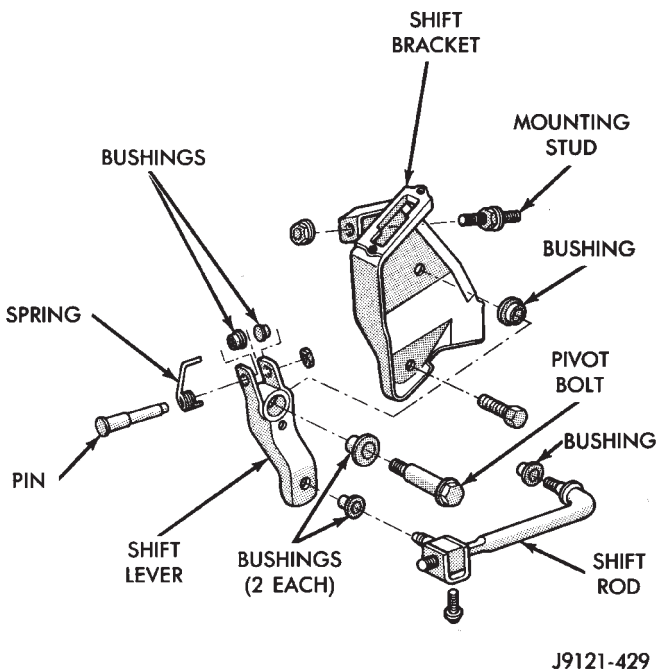

Fig. 8 Shift Linkage—YJ
- (4) Raise vehicle.
- (5) Loosen trunnion lock bolt (Figs. 8 and 9). Linkage rod should now slide freely in trunnion.
- (6) Verify that transfer case range lever is in 4L position.
- (7) Position linkage rod so it is a free fit in range lever (Figs. 8 and 9). Then tighten trunnion locknut.
- (8) Lower vehicle.
- (9) Remove shift lever spacer and install bezel.